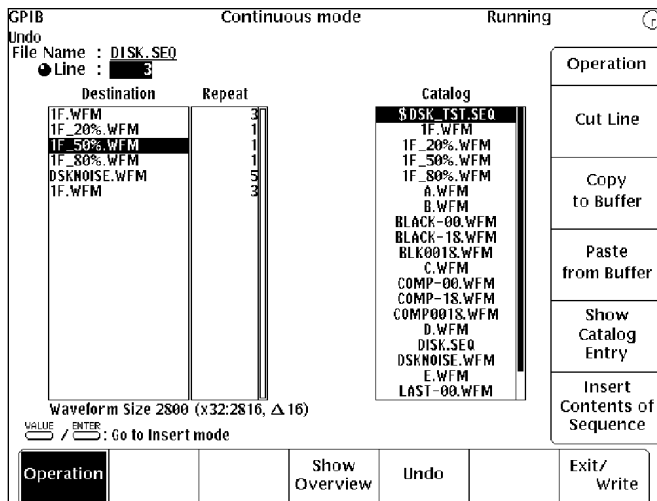
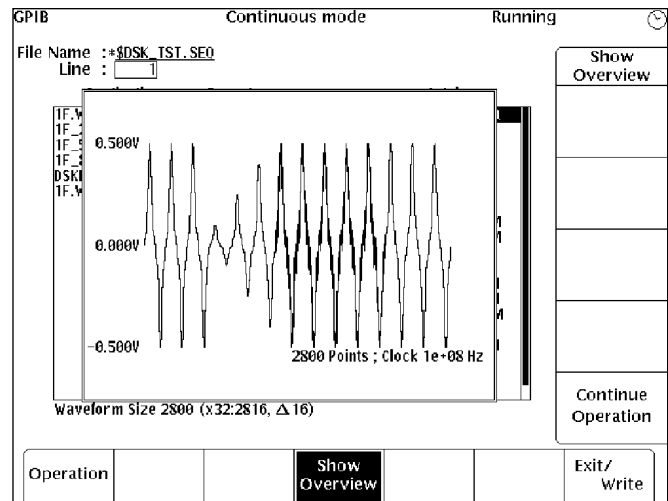

Figure 5. Disk-drive waveform sequence DISK.SEQ.
Figure 6. Disk-drive waveform sequence overview.
3. Use the general-purpose knob to highlight the specific files shown in Figure 5 from the Catalog. Waveforms in the Catalog could have been previously created or acquired from a digital storage oscilloscope or digitizer.¹ Press the front-panel VALUE or ENTER button; the selected file will be inserted into the Destination list. Repeat until the Destination list matches Figure 5. Sequences may be up to 8,192 lines long.
ENTER button to enter the values. When completed, the screen should match Figure 5. The default value for repetition count is 1. The maximum value for the repetition count is 65,535. To view the sequence file at any point, press the SHOW OVERVIEW button from the bottom menu. Figure 6 shows the resultant sequence waveform.